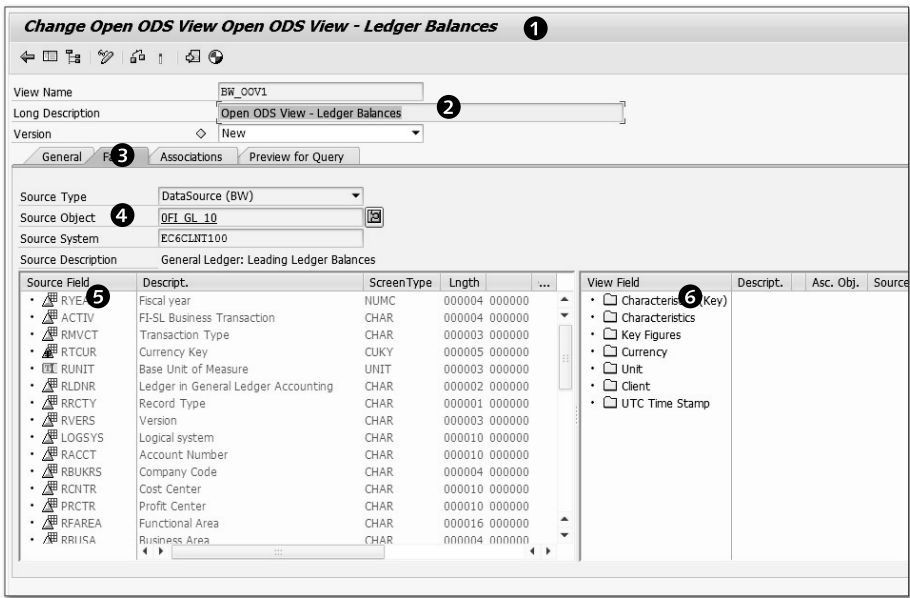

Figure 6.79 Changing the Open ODS View
You need to provide certain input while creating an OOV. Each OOV requires a unique name. Provide the name “BW_OOV1” and enter “Open ODS View – Ledger Balances” in the LONG DESCRIPTION field (❷ of Figure 6.79).